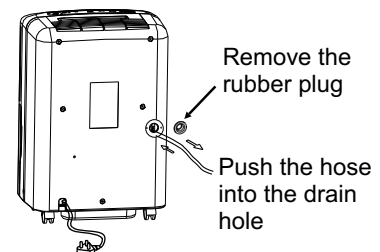

Fig.8
- Remove the water bucket from the front of the unit, you will find a section of hose located above the bucket. Also, locate the fitting and (2) screws included, either inside the bucket and/or within the Styrofoam base packing material.
- Remove the rubber plug from the back of the unit and store it in a safe location (see Fig. 8).
**NOTE:** When the continuous drain feature is not being used, remove the drain hose from the connector as well as the fitting and screws. Then attach the rubber plug back over the drain hole as shown in Fig. 8.